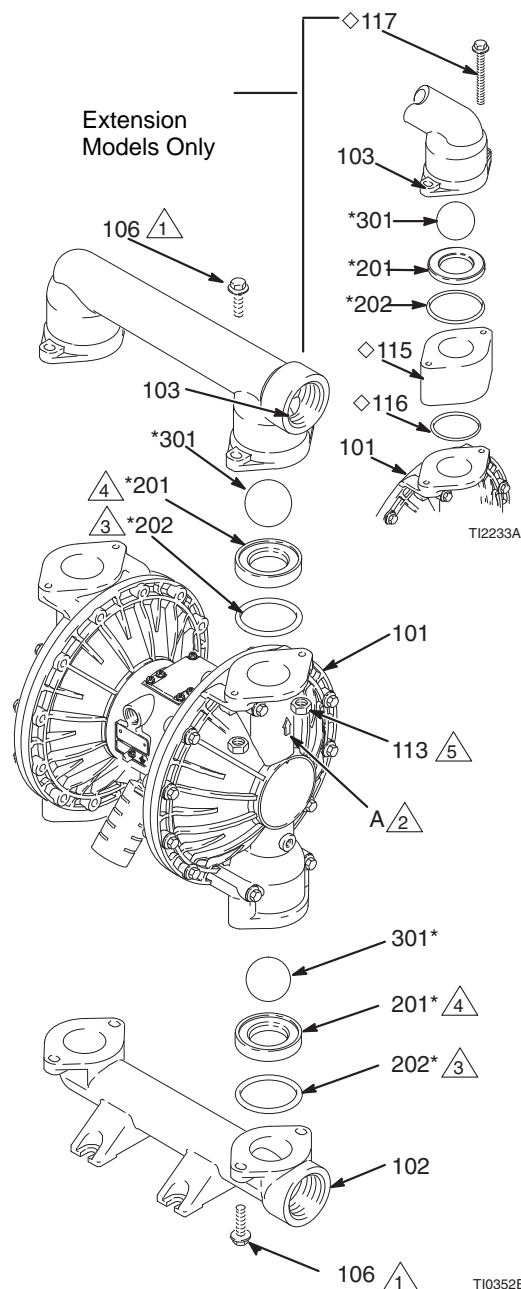

Fig. 10
**NOTE:** To ensure proper seating of the balls (301), always replace the seats (201) when replacing the balls.
**NOTE:** (Extension Version) To ensure proper sealing of extension (115), always replace o-rings (116) when replacing the balls.
3. Using a 10 mm socket wrench, remove the four bolts (106) holding the outlet manifold (103) to the fluid covers (101). See Fig. 10.
4. Remove the seats (201), balls (301), and o-rings (202) from the manifold.
**NOTE:** Some models do not use o-rings (202).
5. Turn the pump over and remove the inlet manifold (102). Remove the seats (201), balls (301), and o-rings (202) from the fluid covers (101).
2. Reassemble in the reverse order, following all notes in FIG. 10. Be sure the ball checks are assembled **exactly** as shown. The arrows (A) on the fluid covers (101) **must** point toward the outlet manifold (103).